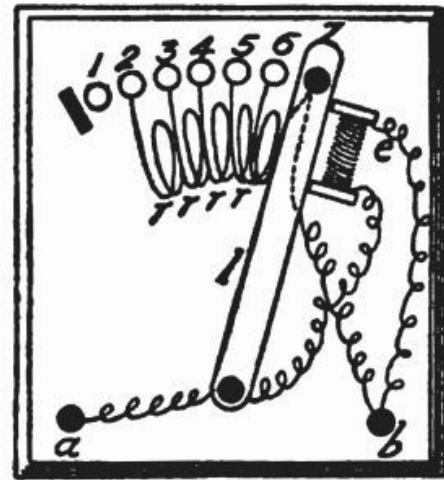

Fig. 49
19. *Electro-Magnet on Starting Box.*—As was explained under *electric motors*, a starting box is simply a series of resistance coils r, r, r, r, r , in Fig. 49. When the motor is not in use the switch l rests upon the point 1 and no electric current passes. When the switch is moved to point 2, the current entering at a passes to the pivot of the switch and up the metal strip l to the point 2, then around the series of coils, r, r, r, r, r , to the post b and thence back to the generator. As the switch is moved to the right, the current passes through less and less of this resistance until, when it reaches point 7, all the coils of resistance are "cut